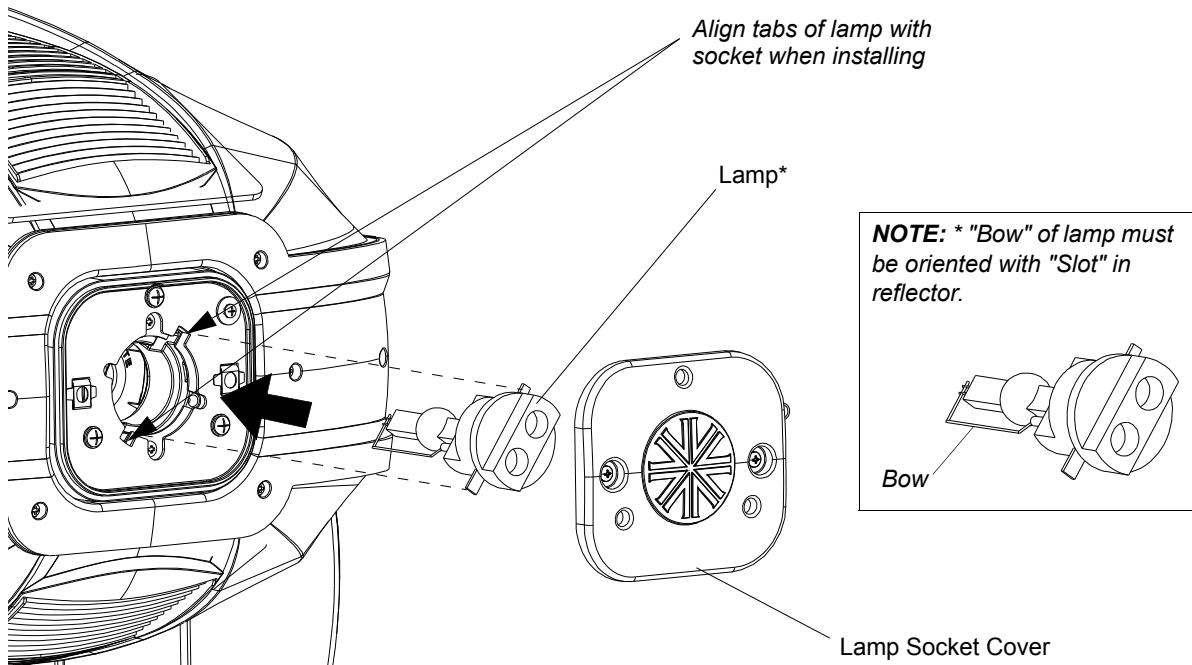

Figure 2-2: Lamp Installation
- Step 5. To remove lamp, grasp lamp base by hand, twist lamp counter-clockwise until lamp's tabs align with slots in lamp socket (see Figure 2-2 on page 14 for more information), and remove lamp by pulling it straight out of socket.
- Step 7. As shown in Figure 2-2, align replacement lamp tabs with lamp socket.